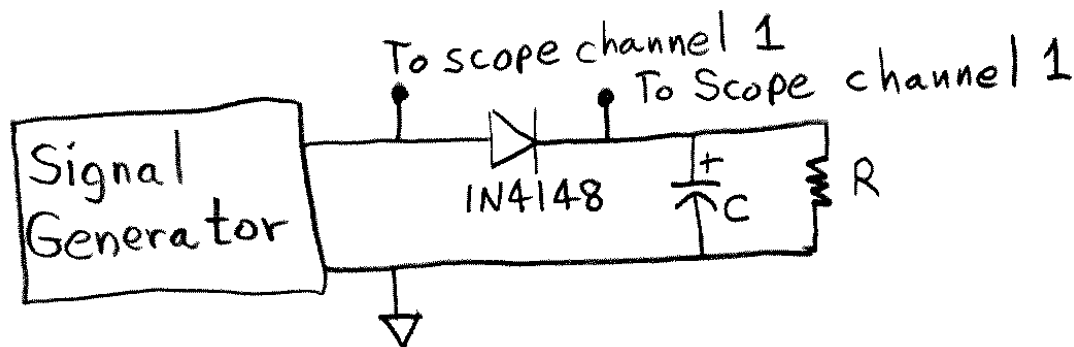

Figure 1: Half-wave rectifier
- 1.1 Build the circuit in Figure 1 but omit the capacitor for the time being. Use 1K for R.